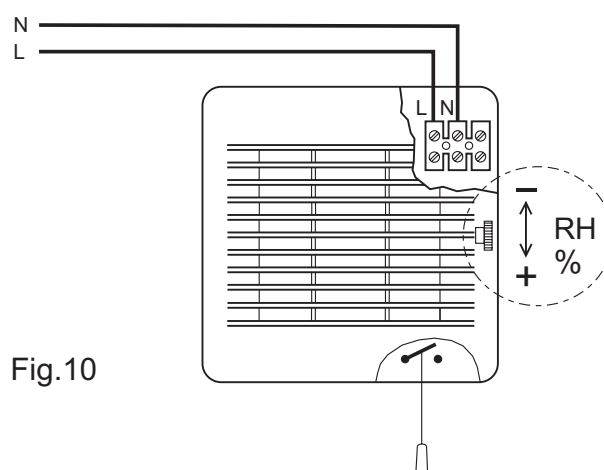

Fig.10
**CLASSIC-100 HP (Fig. 10)**
**CLASSIC –100 XHP (Fig. 10)**